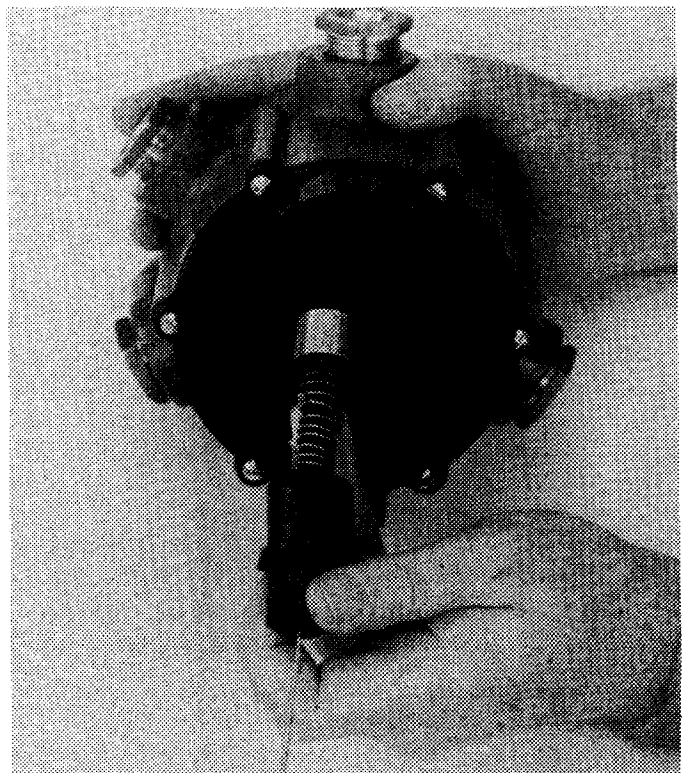

FIG. 6
2. Remove actuating assembly Fig 6. Clean all parts and hole in switch base.